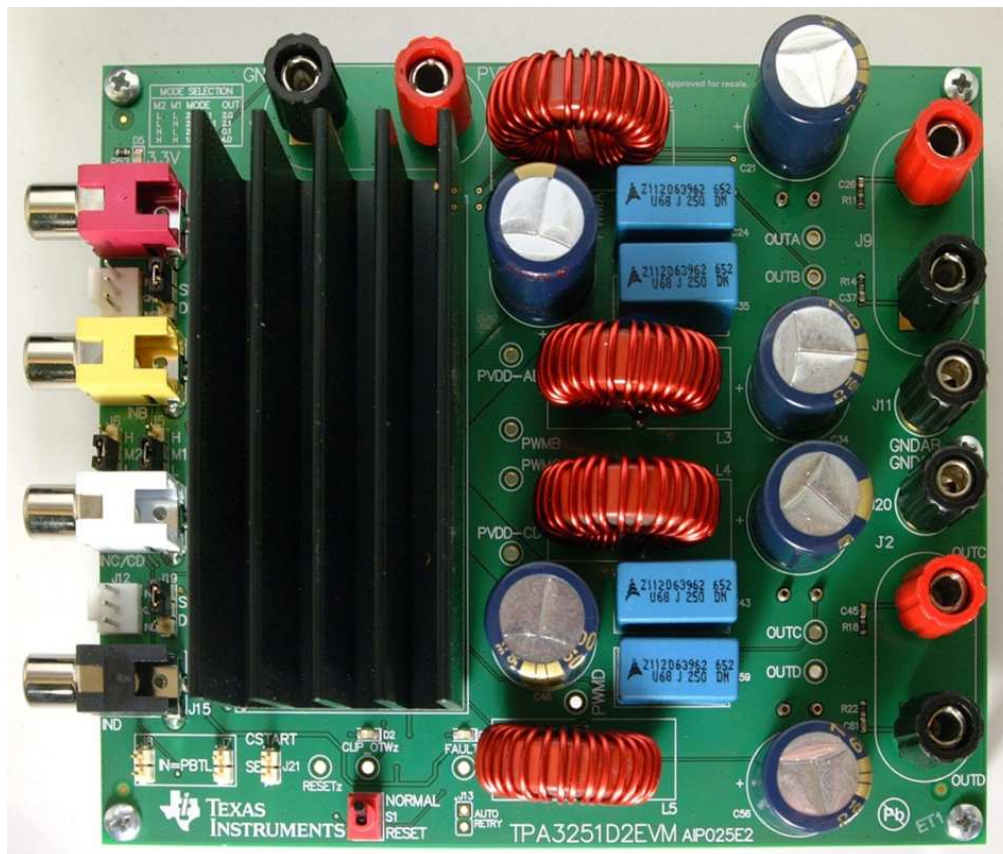

Figure 1. TPA3251D2EVM
- Check that jumpers are in their default state as shown in Figure 1 for stereo **BTL** operation: